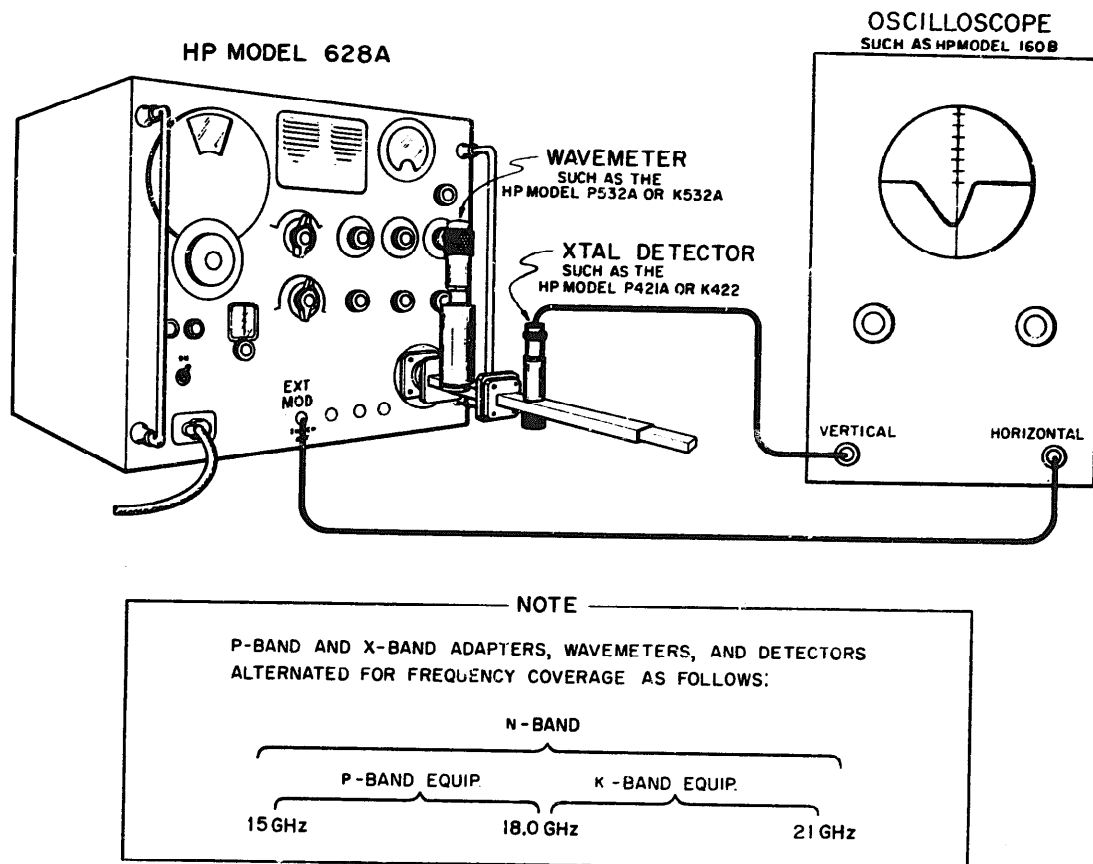

Figure 5-10. Test Setup for Observing Reflector Modes
- c. Connect test setup as shown in Figure 5-10 and check for output.
The test setup shown in Figure 5-10 with control settings on the signal generator described in step b permits the Model 628A to internally FM the klystron with a 60-Hz sine wave of sufficient amplitude to drive the klystron in and out of oscillation. When an oscilloscope is connected, its horizontal sweep circuit is driven by 60 Hz synchronized with the 60-Hz sine wave frequency modulating the reflector. Vertical trace is driven by detected output from klystron. As klystron passes in and out of oscillation, a humped waveform will appear on the oscilloscope. The hump is an indication of klystron output amplitude vs reflector voltage and may be construed as the reflector mode for frequency of oscillation.
- a. Connect test setup as shown in Figure 5-10.